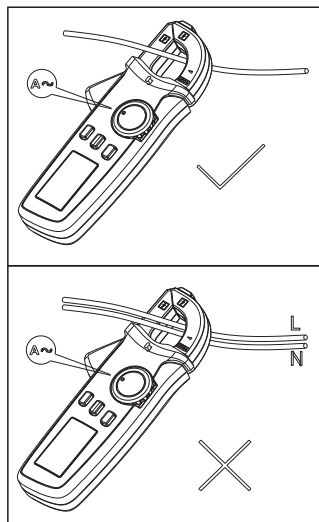

Figure 3
1. Current measurement (Figure 3)